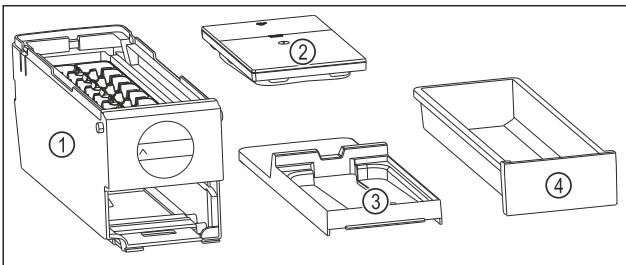

Fig. 165 Components of the EasyTwist-Ice
- ▶ EasyTwist-Ice is disassembled in four parts. (see Fig. 165)
- ▶ Only disassemble the EasyTwist-Ice into the illustrated components. (see Fig. 165)
- ▶ Clean the EasyTwist-Ice body Fig. 165 (1) as a complete unit.